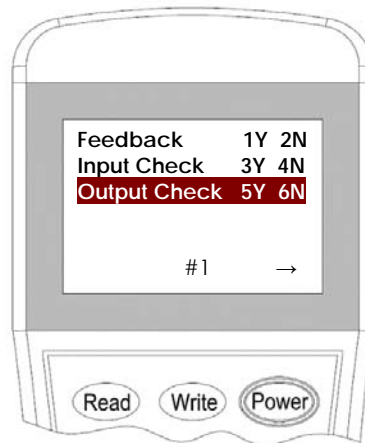

Figure 17: Page 1 for first address
4. The LF-X5220 takes two addresses, Input the **"5"** for Check mode then press **"Write"** to change the setting (Figure 17).